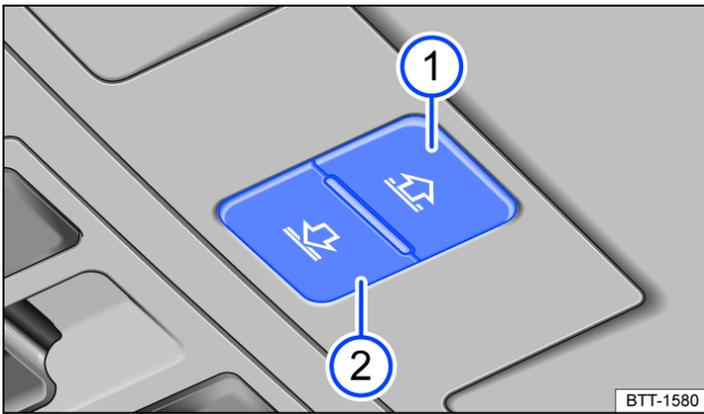

Fig. 1 In the roof: button for controlling the sun blind.
The buttons → Fig. 1 ① and ② have two positions. In the first position, the sun blind can be completely or partially opened or closed.